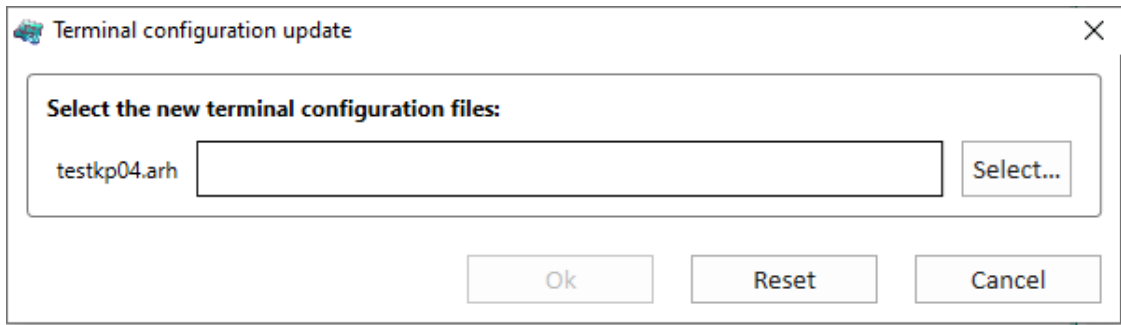

Figure 37 – IED configuration update window
3.2.3.2 Device configuration is replaced via menu item  → **Update configuration...** When this item is selected, a dialog box (figure 37) is displayed in which you must specify the path to the **xxx.arh** configuration file. The name of the loaded configuration file must match the name of the configuration file on the device. If the configuration contains incorrect versions, an error message will be displayed.